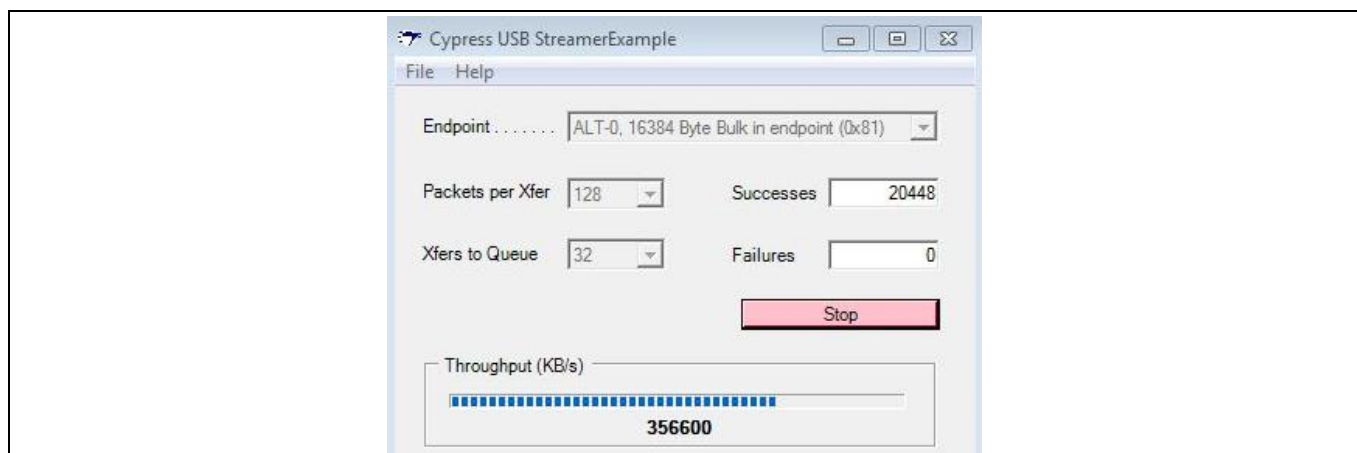

Figure 55 Streaming IN performance in streamer utility
4. In the stream IN case, now the FPGA is already in a state where it is waiting for FLAGA to equal 1. As soon as the buffer is available, the FPGA will start writing continuously to FX3's PIB_SOCKET_0. From the USB host, you can issue continuous Bulk IN transfers. Select the BULK IN endpoint in the streamer utility and click **Start**. The performance number is displayed. The performance shown in **Figure 55** is observed on a Win7 64-bit PC with an Z77 Express chipset from Intel.